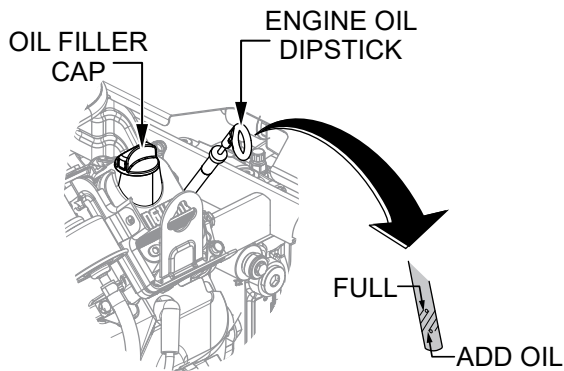

Figure 31. Engine Oil Dipstick And Filler Cap
2. Pull the **engine oil dipstick** (Figure 31) out of its holder and wipe it with a clean rag.
4. Determine if engine oil is low. Oil should be between the **upper and lower marks** (Figure 31) on the dipstick.
5. If the oil is below the lower mark on the dipstick, remove the **oil filler cap** (Figure 31) and add engine oil up to the upper mark on the dipstick. Refer to Table 3 for engine oil capacity and Table 6 for recommended oil viscosity.